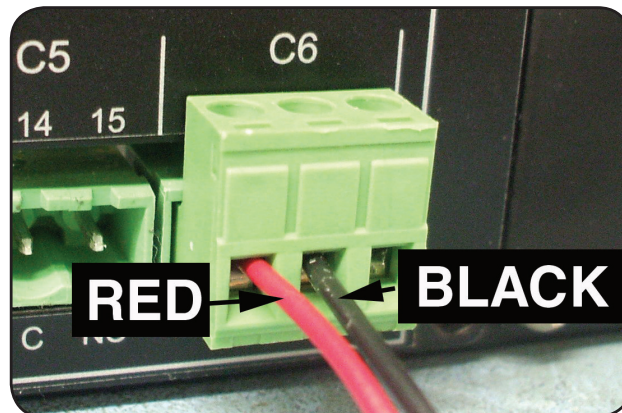

Figure 6.19 - Connecting the DC fan to contact C6 on the UPS
1. Connect the black (common) wire of the DC fan to the center (common) terminal of the dry contact connector as shown in Figure 6.19.